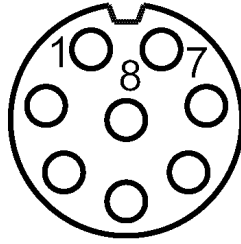

Figure 1: Connector Pin Diagram, solder-socket view
8. Solder wires and shield to connector body (3) as indicated. See **Figure 1 & Table 2**.